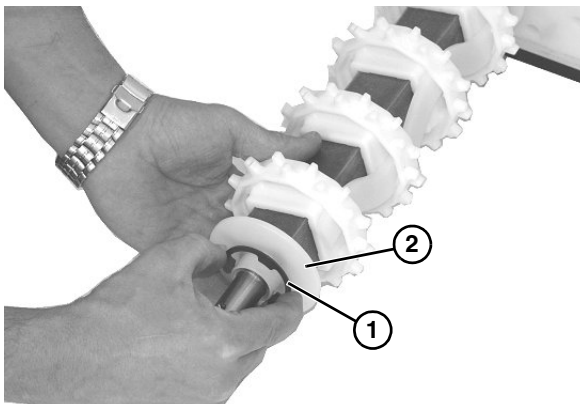

Figure 29
9. Remove retaining clip (**Figure 29, item 1**) and flanged puck (**Figure 29, item 2**) from drive spindle.